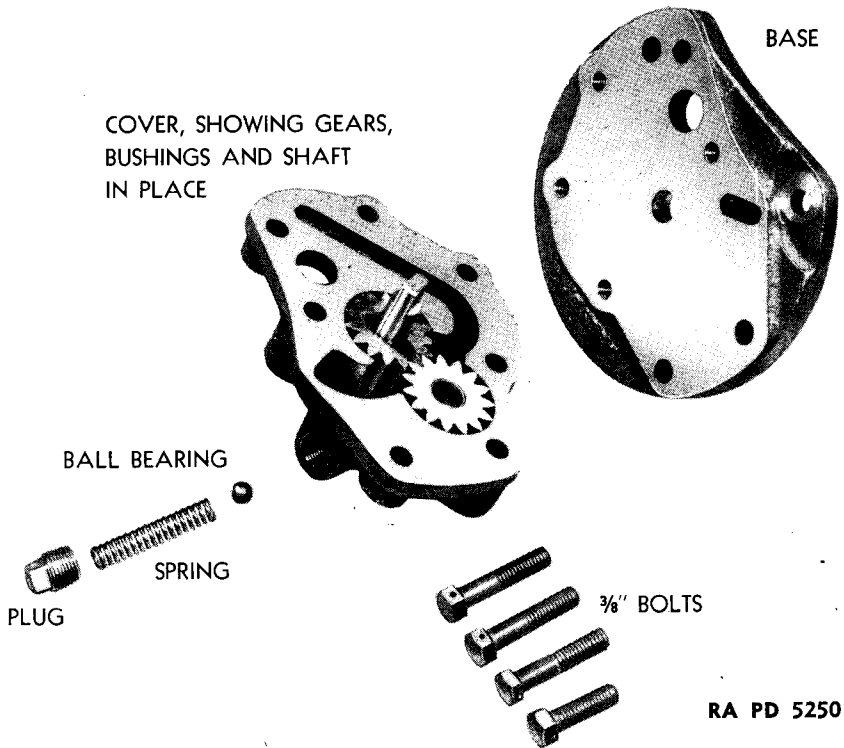

FIGURE 33 — WORKING PARTS IN OIL PUMP EQUIPPED WITH OIL COOLER
(20) Dismantle oil pump assembly. Oil cooler used (*fig. 33*). Remove bolts ($\frac{7}{16}$ -in. wrench) which hold cover to base and lift off cover. Lift shaft and gears out by hand. Remove plug, spring and ball, being careful spring and ball do not jump out and become lost when plug is removed. Do not remove bushings unless worn or damaged. If necessary, bushings can be pressed out of driven gear and case but must be broken out of body with punch or cold chisel.